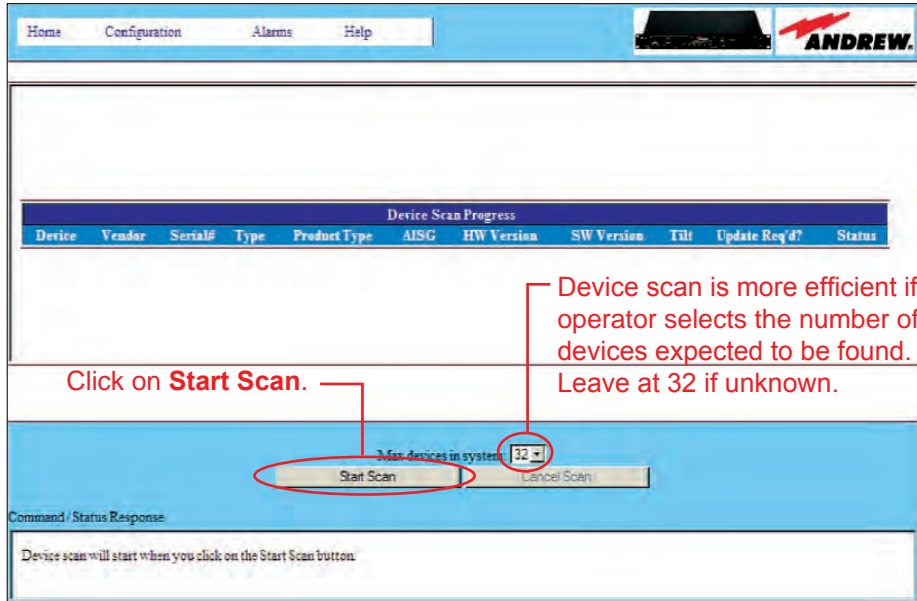

Figure 11-2. Starting Scan For New Devices.
- Click on **Start Scan** to activate the device search (Figure 11-2). Note that the controller can identify up to 32 AISG devices.